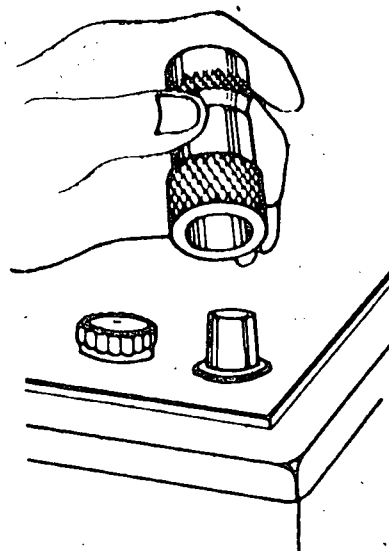

Fig. 2
- d) Clean the battery terminals with a wire brush or with the recommended tool (fig. 2).